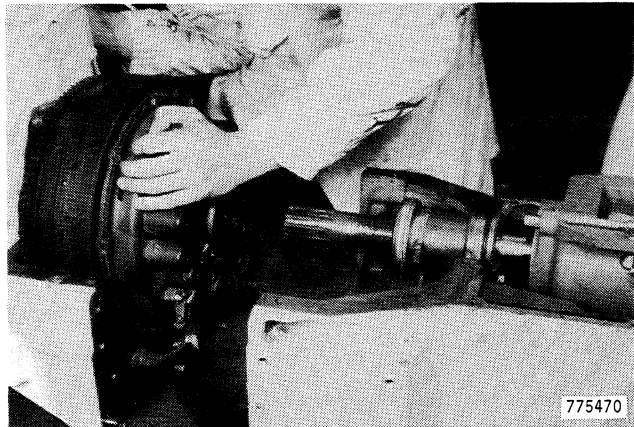

Figure 53
- 56. Push the front housing away from the rear housing, Figure 53. Block front housing in position.